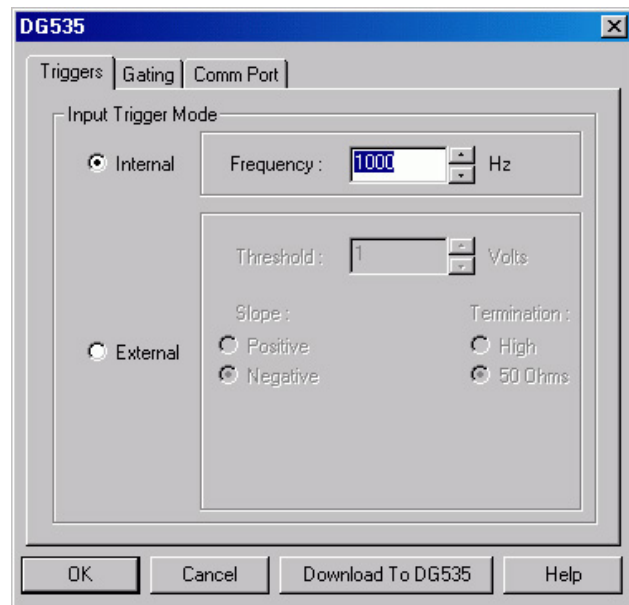

Figure 172. DG535 Triggers tab page
8. Click on the **Triggers** tab (Figure 172).